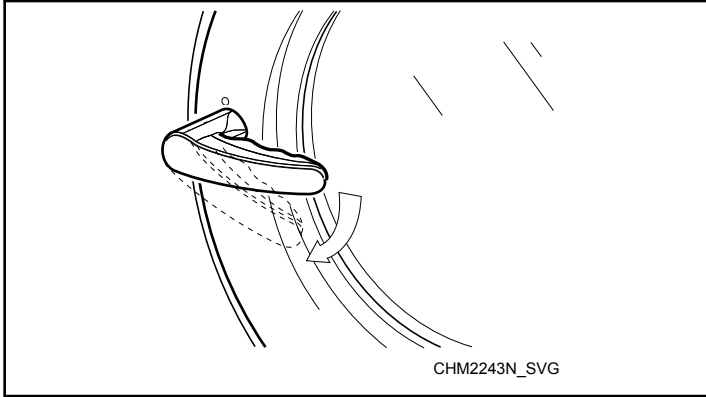

Figure 52
2. Turn handle clockwise to open. Refer to *Figure 52*.